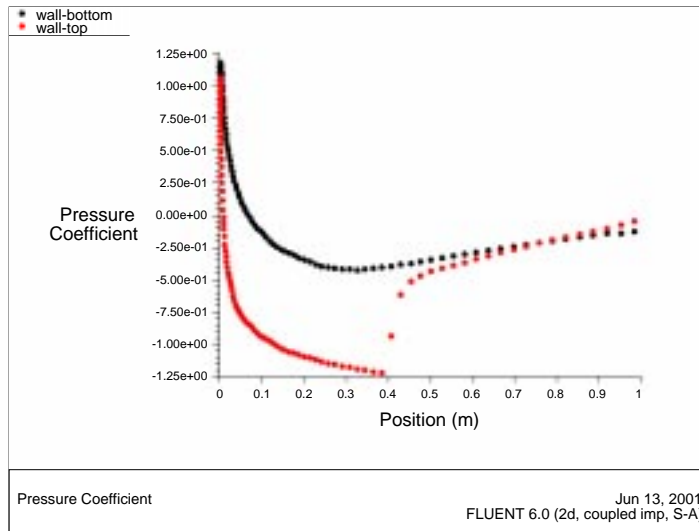

Figure 3.14: XY Plot of Pressure
3. Plot the pressure distribution on the airfoil (Figure 3.14).